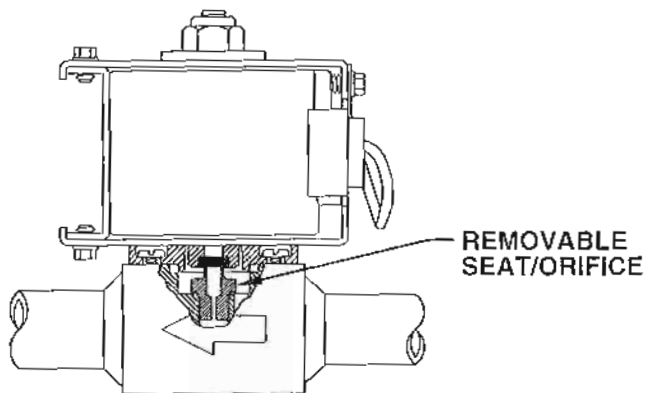

Figure 8.
The APM is equipped with four solenoid valves. These are as follows: the liquid drainer solenoid valve (A); the liquid make-up solenoid valve (B); the purge gas solenoid valve (C); and the water solenoid valve (D). With the exception of the water solenoid valve, each is directly welded in-line and has a stainless steel removable seat/orifice (see Figure 8). The removable seat/orifice facilitates easy access to the orifice for inspection or replacement. If necessary, the water solenoid valve (D), whose brass body has threaded ends, can easily be replaced or parts thereof changed.